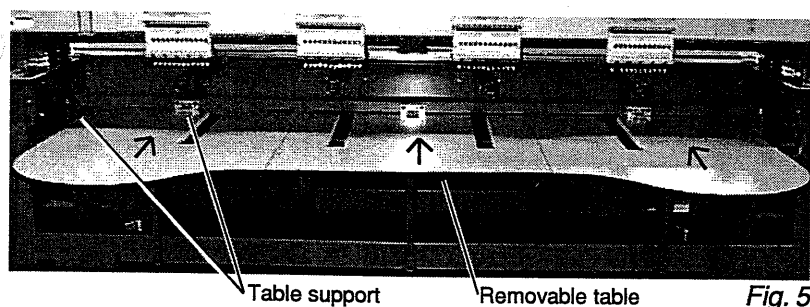

Fig. 5
- 8 As shown in Fig. 5, insert removable table under table support in order of left, right and center and slide it deep inside. Fix set screws on each table.